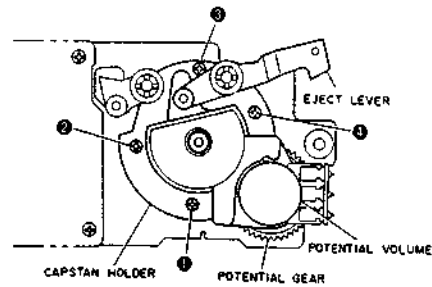

Fig. 3-13
- 3) Remove capstan holder securing screws ①, ②, ③ and ④. Remove the capstan holder. (Refer to Fig. 3-13.)